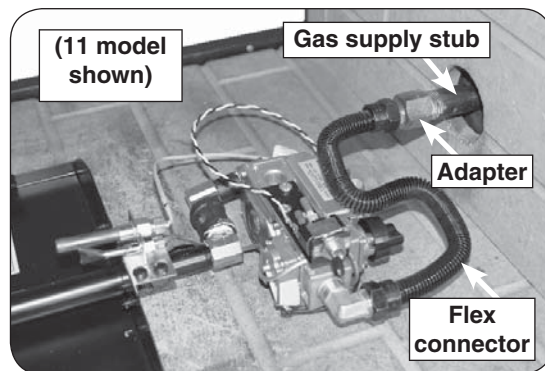

Fig. 18-1 Connect gas supply
2. Locate the gas-supply stub inside the fireplace and remove the cap, if attached (reference Fig. 18-1).
5. **Be sure gas to the fireplace is off.** Remove the adapter connected to the flex connector. Attach the adapter to the gas-supply stub using a pipe compound resistant to all gasses. Tighten securely. Then attach the open end of the flex connector to the adapter. Tighten securely (see Fig. 18-1). Ensure the pan rests level on the fireplace floor after connection. Adjust the pan if necessary.